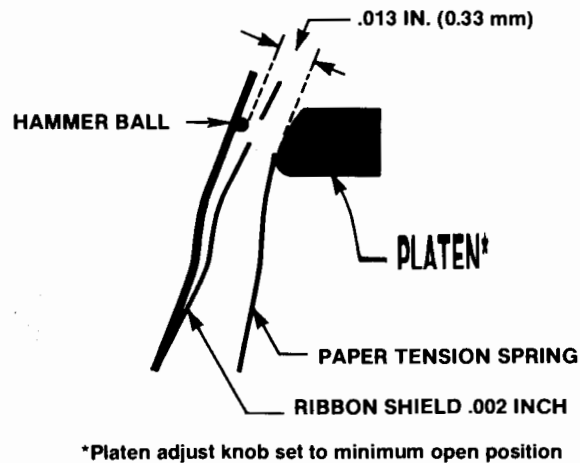

Figure 1. Hammer-to-Platen Gap Adjustment
- c. Check, with a thickness gauge, the gap between the platen face and the hammer ball along the entire length of the corebar and platen. The gap should be as shown in figure 1. Small variations (+/-0.002 in.; +/-0.05 mm) will occur along the corebar, the gap measurement should be an average of these variations.
- d. If the gap as shown in figure 1 is not maintained across the entire platen, move the platen release lever to the open position. Using a hex driver, slightly loosen, but do not remove, the two pairs of socket head screws at each end on top of the platen.